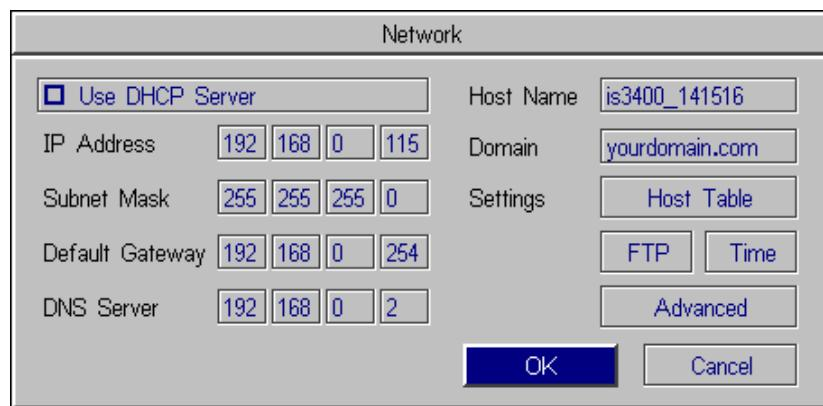

Figure 2-12: Network Dialog
3. Select Network to open the Network dialog (Figure 2-12).